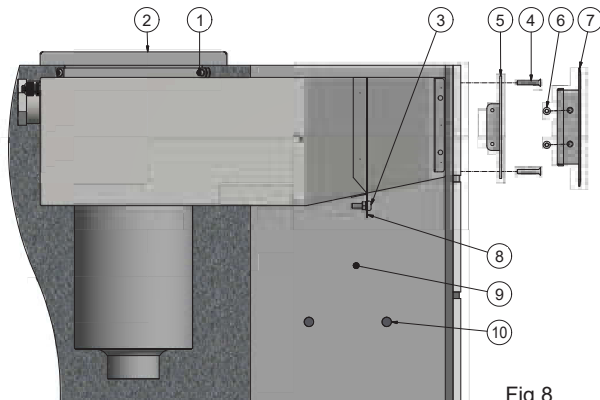

Fig 8.
4. Connect the cable (at least 6 mm²) with a ring from the intake flange to earth (see item 3 Figure 8). Screw, toothed washer and nut are supplied with the product.
9. Assemble the frame and secure it with screws (4x M5x30), see Fig. 8.